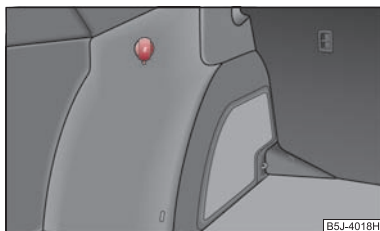

Fig. 78 Luggage compartment: Power socket
- Open the cover of the power socket ⇒ fig. 78.